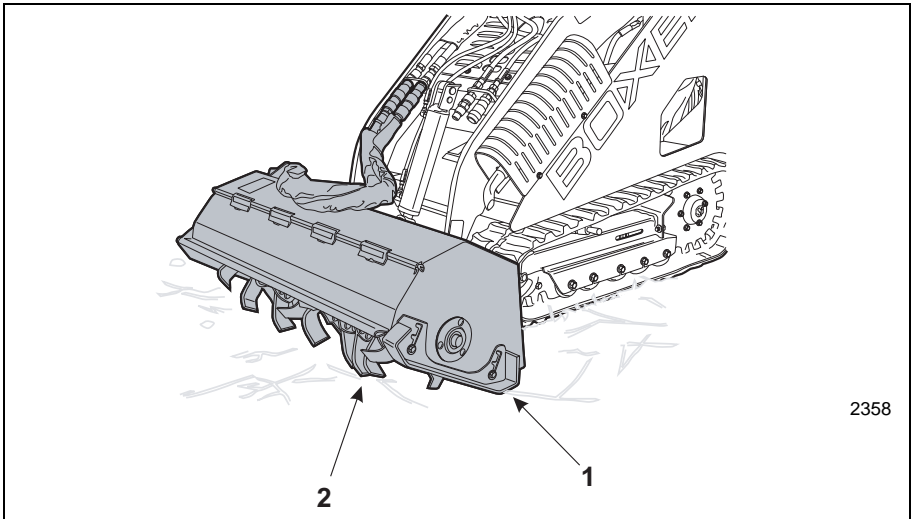

Figure 9 Initial Roto-Tiller Work Position
4. Using the tilt control lever, rotate the roto-tiller upwards so that the front edge is slightly elevated and the roto-tiller tines (Item 2, **Figure 9**) are not contacting the ground.
5. Lower the attachment to the ground, making sure that the skid shoe (Item 1, **Figure 9**) is in contact with the ground and the tines are still elevated.